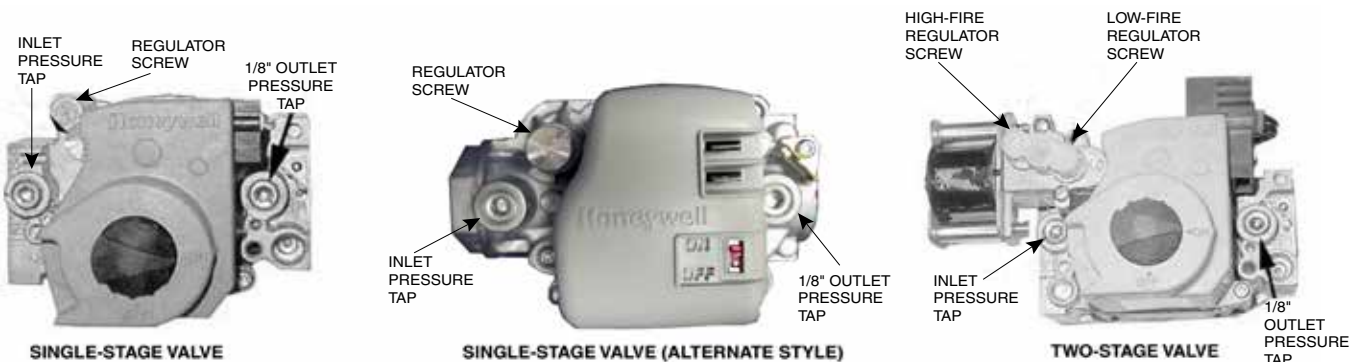

Figure 3. Manifold Pressure Adjustment
- a. Turn knob or switch on top of gas valve to OFF. Connect manometer (Water Column (WC) manometer readable to nearest tenth-inch) to 1/8" outlet pressure tap (see Figure 3).
- d. For all gas valves, adjust outlet pressure by turning regulator screw IN (clockwise) to increase pressure or OUT (counterclockwise) to decrease pressure. See Figure 3 to determine which regulator screw (low-fire or high-fire) to adjust for two-stage valves.
- h. Connect manometer to inlet pressure tap (see figure 3). While heater is operating, measure inlet pressure, which should be between 5 and 14 IN WC for natural gas or between 10 and 14 IN WC for propane.